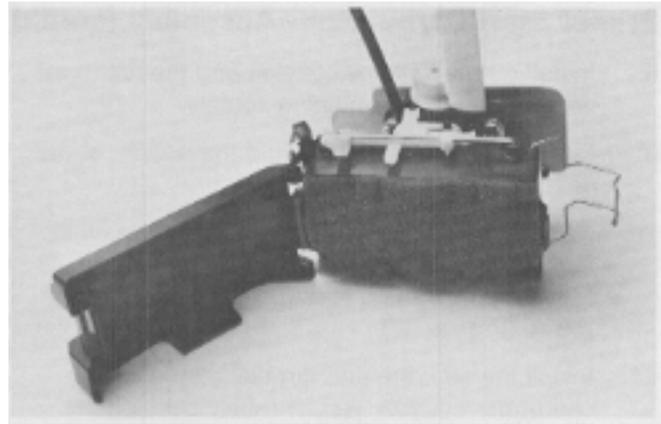

Figure 38
1. To remove the air filter, at the left side unsnap the wire holder from the cover, and then unsnap the cover from the clear plastic shell. Remove the cover and air filter element (**Figure 38**).